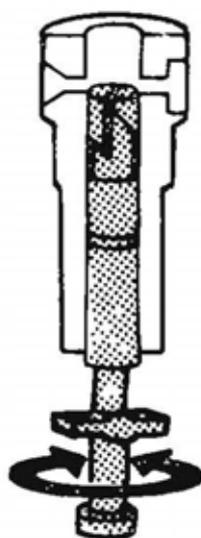
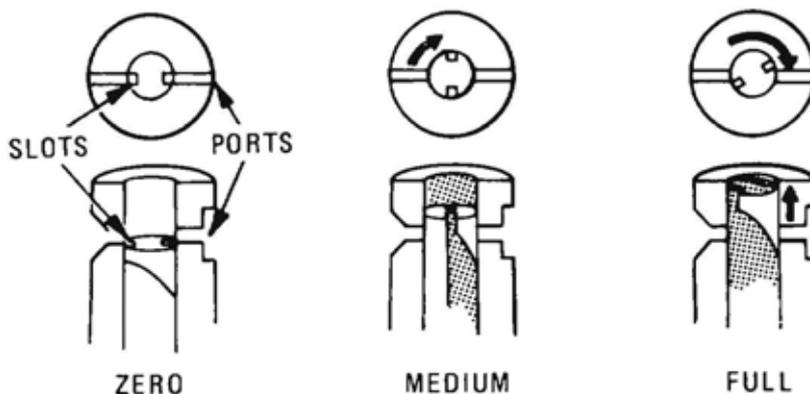

Figure 21 Vary the Effective Plunger Stroke
Figure 22 Fuel Metering
**37.** Since the total plunger stroke is constant, metering is accomplished by varying the length of the 'effective' part of the plunger's helix (Figure 20). The amount of fuel injected depends on the effective stroke of the plunger. This effective stroke is varied by rotating the plunger within its barrel (Figure 21). When the plunger's two vertical slots are lined up with the barrel ports, fuel pressure won't build as the plunger reciprocates. This is the zero fuel delivery position. As the plunger is rotated, it travels further up the barrel before uncovering the spill-port and, therefore, delivers a greater amount of fuel. In the full throttle position, the helix covers the spill-port for its greatest distance and maximum fuel is injected (Figure 22).